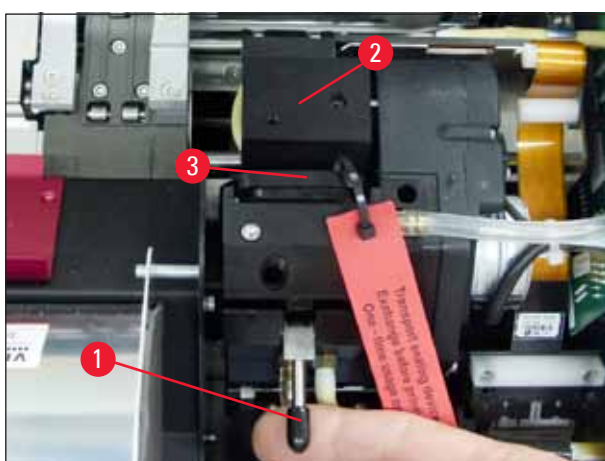

Fig. 34
4. The print head (→ "Fig. 34-2") moves upward to a position approx. 1 cm away from the sealing lip (→ "Fig. 34").